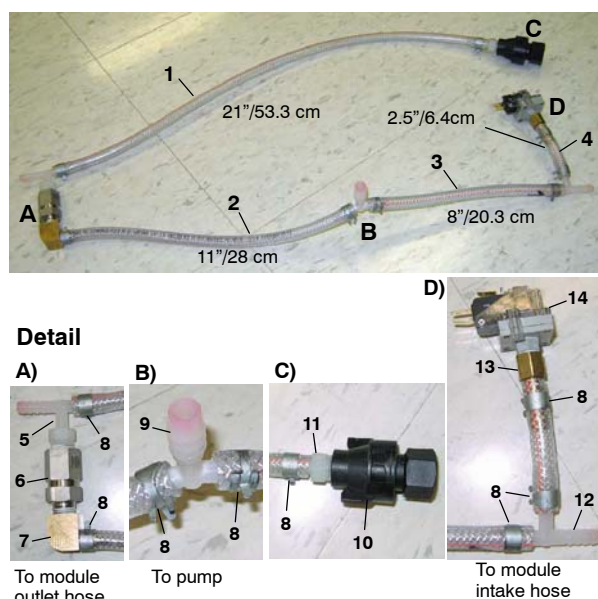

Fig. 26
7. Cut the 4 ft braided hose [p/n 578227000] into the specified hose lengths as described (ref. 1, 2, 3 & 4) then assemble the following parts as shown (Figure 26). Use thread sealer tape on all fittings.
ec-H2O Solution Hose Assembly Parts List (Figure 26)